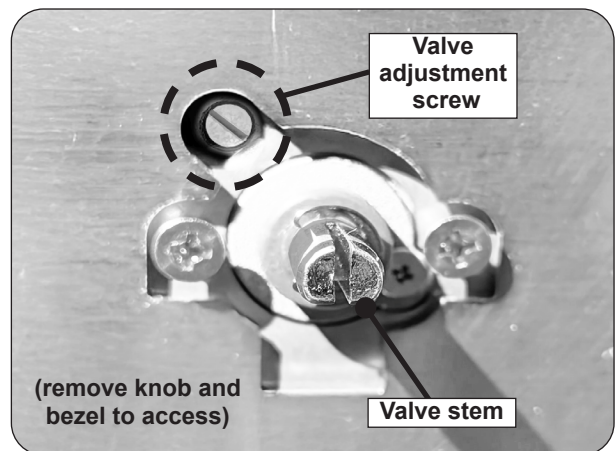

Fig. 42-1 Valve adjustment screw location
5. Locate the FLATHEAD adjustment screw located on the upper left of the valve stem (see Fig. 42-1).